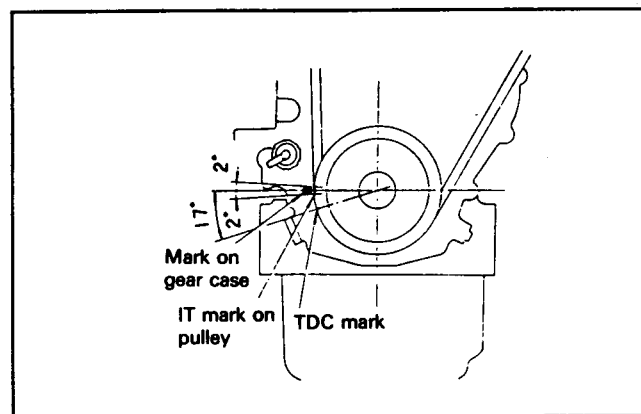

Figure 21
4. Slowly rotate the crankshaft counterclockwise from the flywheel end (normal rotation) until the IT marks (injection timing marks) on the crankshaft pulley are approximately 1/2 in. (21 mm) from alignment with the stationary pointer on the engine gear case (Fig. 21). Make sure the number one cylinder compression stroke is approaching by checking the push rods. Both push rods on the number one cylinder should be loose and the valves closed. If either push rod is tight, rotate the engine crankshaft one full revolution and inspect the push rods again.
7. Standard injection timing can be confirmed by the IT marks on the crankshaft pulley and the stationary pointer on the crankcase (Fig. 21).